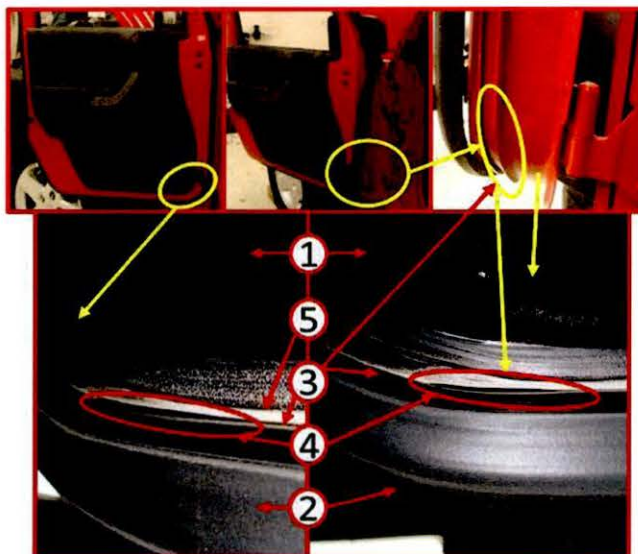

**Fig. 4 Seal Modification**
3. Locate the mark (1) made in Step #1 on the door seal, below the lower door panel fastener, and designate it as the center of the notch (3) which should be approximately 5/8"/(16mm) wide (4) (Fig. 4).
4. Using diagonal cutters, (2) cut approximately 1/4"(6mm) into the outer door/"wet side" of the seal on either side of the seal center mark (1) outlined in top pictures 1 & 2 of (Fig. 4).
5. Connect the two cuts from Step #4 by cutting along the bottom side/door bulb side of the seal as outlined in picture 3 of (Fig. 4)
6. Connect the two cuts from Step #4 by cutting along the top side/door channel "flat side" of the seal as outlined in picture 4 of (Fig. 4)